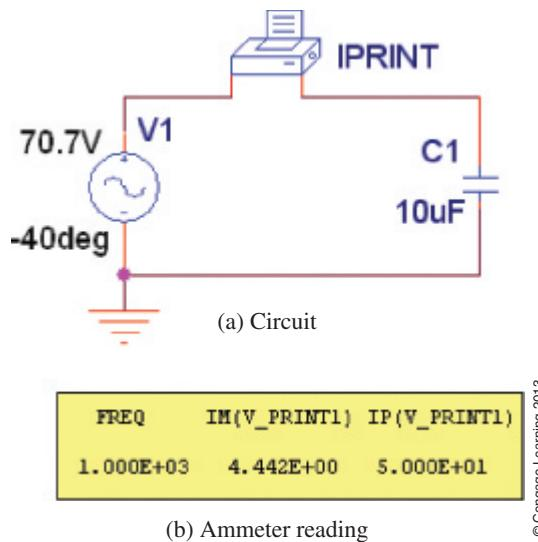

FIGURE 16-47 Phasor analysis using PSpice. Component IPRINT is a software ammeter.
As a last example, we will show how to use PSpice to perform phasor analysis—that is, to solve problems with voltages and currents expressed in phasor form. To illustrate, consider again Example 16-18. Recall that $\mathbf{V}_C = 70.7 \text{ V} \angle -40^\circ$, $C = 10 \mu\text{F}$, and $f = 1000 \text{ Hz}$. Procedure: Create the circuit on the screen (Figure 16-47) using source VAC and component *IPRINT* (Note 1). Double-click the VAC symbol and in the Property Editor, set *ACMAG* to **70.7V** and *ACPHASE* to **-40**, click *Apply*, then close the editor—see Note 2. Double-click *IPRINT* and in the Property Editor, type **yes** into cells *AC*, *MAG*, and *PHASE*. Click *Apply* and close the editor. Click the *New Simulation Profile* icon, enter a name, select *AC Sweep/Noise*, set both *Start Frequency* and *End Frequency* to **1000Hz**, select *Linear*, then set *Total Points* to **1**. Run the simulation. When the simulation window opens, click *View*, *Output File*, then scroll to near the end of the file where you find the answers (see Note 3). The first number is the frequency (1000 Hz), the second number (*IM*) is the magnitude of the current (4.442 A), and the third (*IP*) is its phase (50 degrees). Thus, $\mathbf{I}_C = 4.442 \text{ A} \angle 50^\circ$ as we determined earlier in Example 16-18.
1. Component *IPRINT* is a software ammeter, found in the SPECIAL parts library. In this example, we configure it to display ac current in magnitude and phase angle format. Make sure that it is connected as shown in Figure 16-47, since if it is reversed, the phase angle of the measured current will be in error by 180° .
2. If you want to display the phase of the source voltage on the schematic as in Figure 16-47, double-click the source symbol and in the Property Editor click *ACPHASE, Display*, then select *Value Only*.